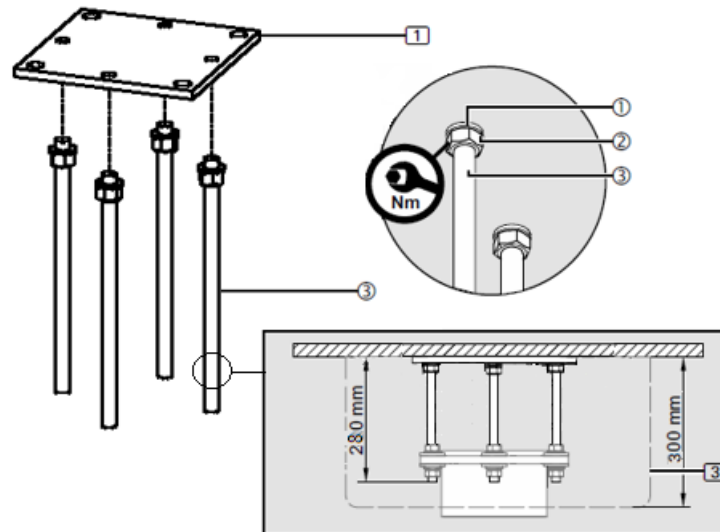

Fig. 5 Mounting of interface plate without false ceiling
- For the ceiling trim (3), which has a height of 300 mm, the 6/12 M16 x 350 mm threaded bolts (3) must be cut to 280 mm. See Fig. 5.
- Lightly deburr the M16 x 350 mm threaded bolts (3) to ensure maximum thread engagement in the interface plate (1).
- Thread 1 M16 hex nut (2) each onto the M16 threaded bolts (3) and then fit 1 spring washer (1) each.